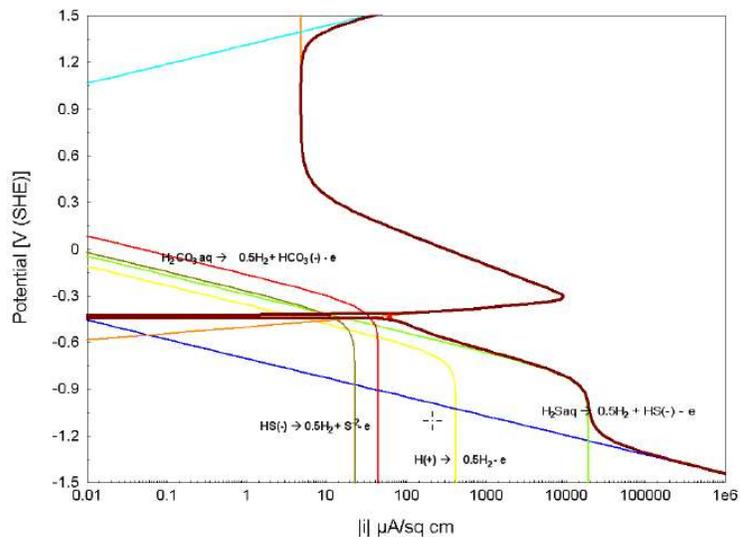

Figure 5. Polarization curves for carbon steel in an environment saturated with CO2 and H2S.
The below figure shows the addition of reactions (15) and (16) to the model. The addition pushes up the rate of corrosion and moves the corrosion potential towards a more anodic value. As more components are added, more reactions influencing corrosion may be added to the mixed potential expression. For instance, Figure 5, shows the addition of  $H_2S$  to the system at conditions of saturation and higher temperature. Also note that the changes in conditions affect the corrosion (anodic) polarization shape.
As the potential is increased to a high anodic value, other anodic reactions may become substantial enough to affect the net current. The transpassive region is the section of the curve anodic to the corrosion potential where the current density increases again after having been flat for a range of potential. In the case of the curve plotted in Figure 5, the reaction is the oxygen evolution reaction for the breakdown of water. In other words, the water stability limit is reached.
Figure 5 shows three reactions where hydrogen ions are consumed at the metal surface, and none are produced. As the mass transfer limitation is approached, the pH will rise because fresh hydrogen ions will not be able to diffuse fast enough to replace what is lost through the partial processes.